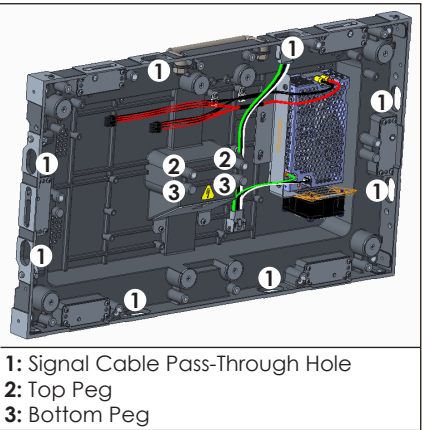

Figure 42: Signal Cable
3. Route the signal cable through the internal pass-through holes to the next module or within the panel. Refer to **Figure 42**. When routing the 24" cable assembly (W-3768426) horizontally from module to module, ensure the cable routes either between the top and bottom pegs or below the bottom pegs. Refer to **Figure 42**.
- 10. Guide the module into position on the panel, aligning with the top and bottom pegs. Refer to **Figure 42**.